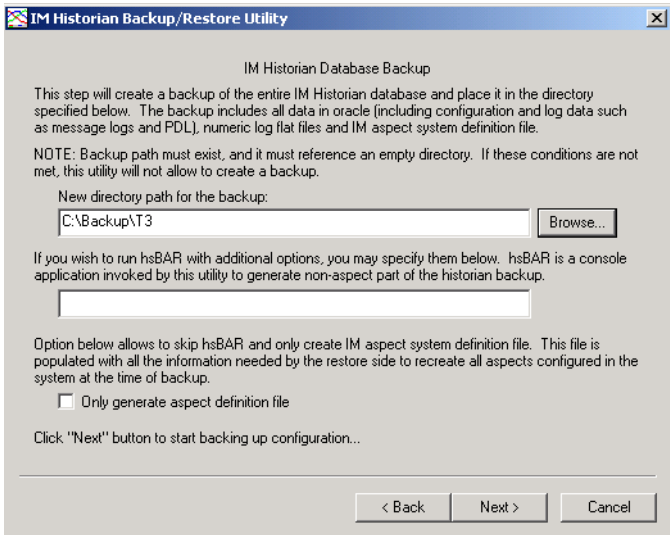

Figure 299. Setting Up the Backup Operation
3. Click **Next**. A window for setting up the backup operation is displayed (Figure 299).
4. Specify the location where the backup files are to be created in the New Directory Path for the Backup field. This path must already exist and the directory must be empty. If necessary, click **Browse** to create a new directory (Figure 299). Add a D:\HSDATA\History as an additional option. Figure 299 shows the Browser dialog being used to browse the existing path C:\Backup, and then create a folder named T3 in the Backup directory.
4. Specify the location of the backup files from which the History database will be recreated. Enter the path directly in the *Path of IM historian backup* field, or use the corresponding **Browse** button. Figure 299 shows the Browser dialog being used to browse to **C:\Backup\T3**.